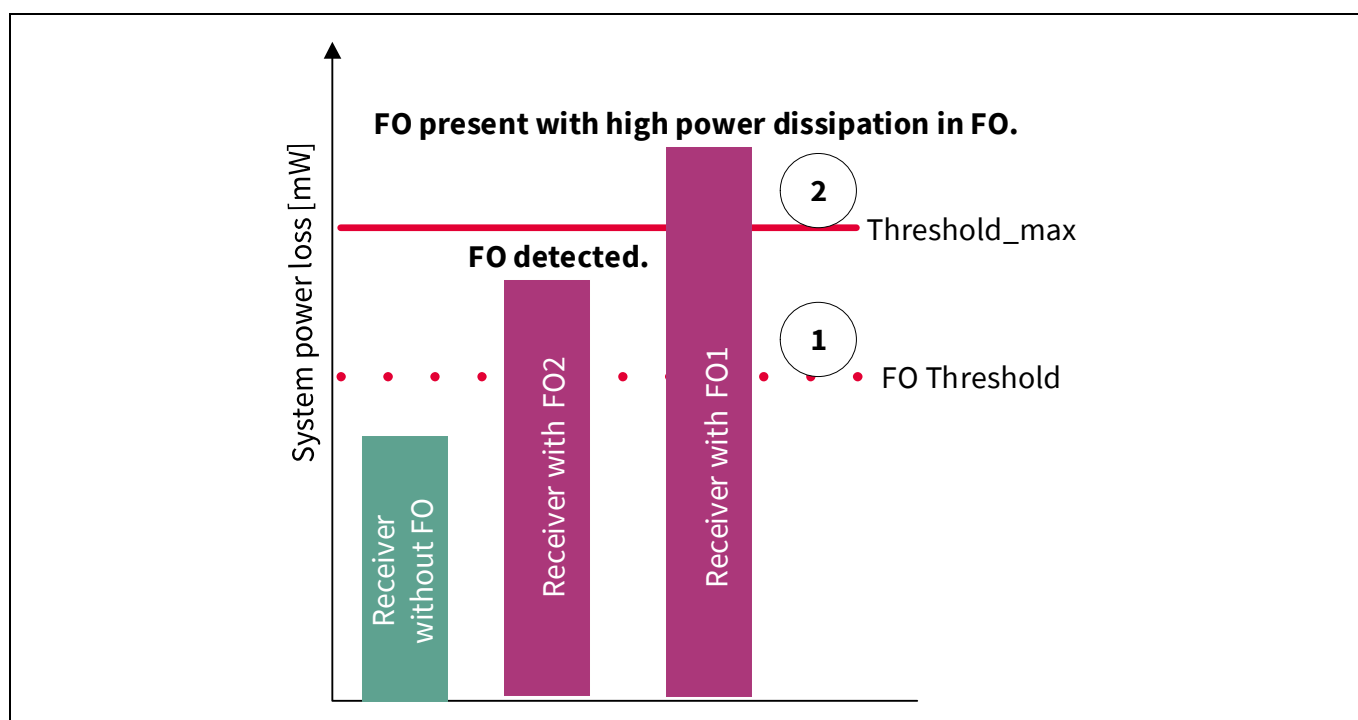

Figure 5 FOD mechanism based on system power loss
Case 1 represents the region ① and Case 2 represents the region ② in Figure 5.